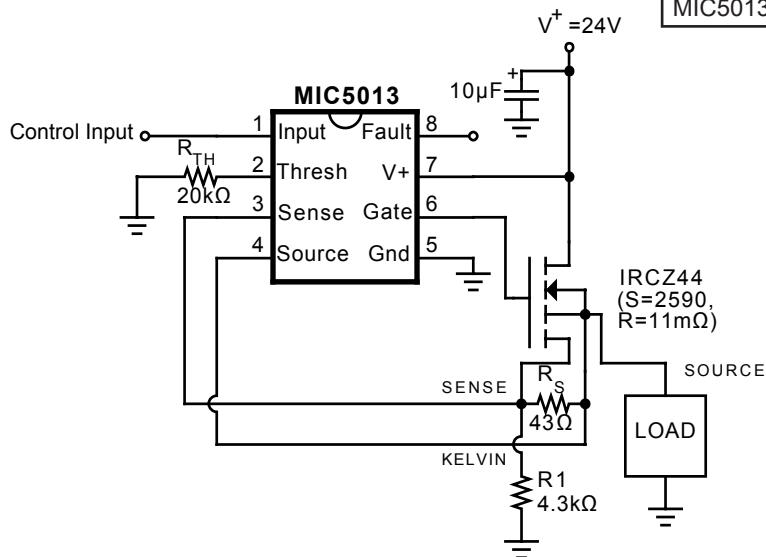

Figure 1. High-Side Driver with Current-Sensing MOSFET
**Pin Description** (Refer to Figures 1 and 2)